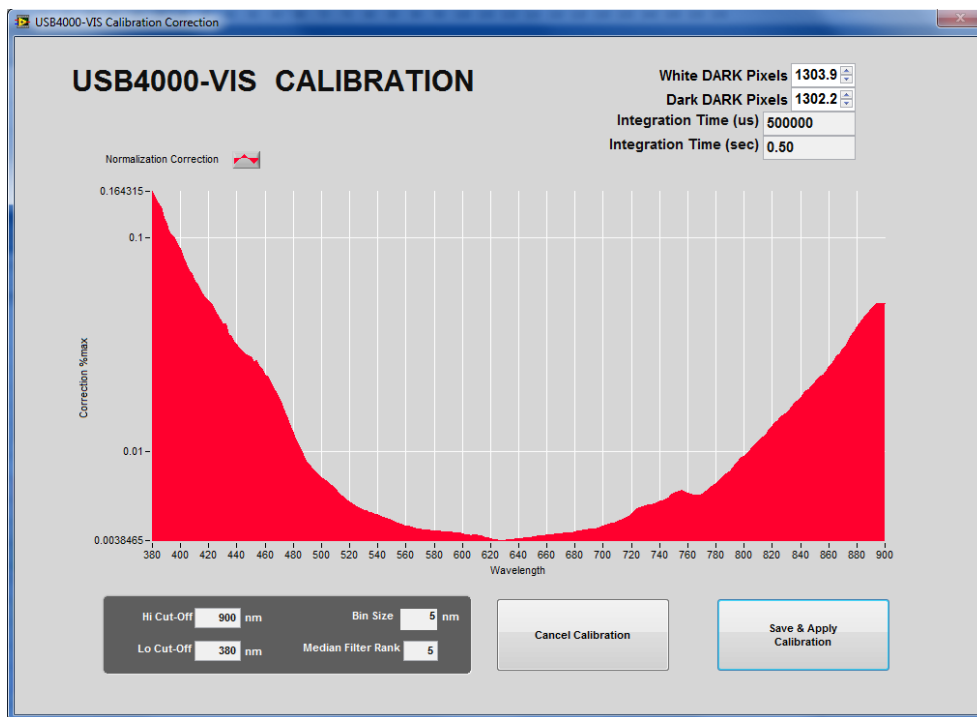

Figure 12. Calibration Correction Screen.
5. The final screen shows the normalization of spectra that will occur with the just-acquired calibration (Fig. 12). If this was a mandatory calibration the laser profile will start automatically, followed by the normal measurement sequence.